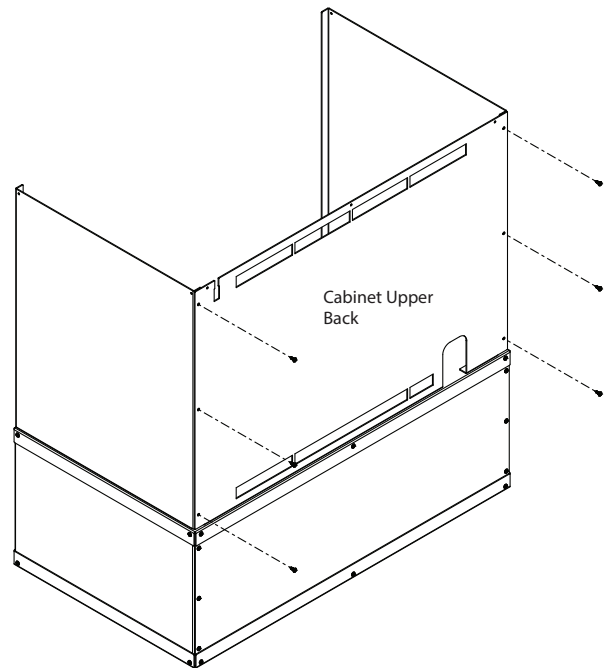

Figure 6.7
- Assemble cabinet upper back to cabinet upper sides using 6 screws. See Figure 6.7.